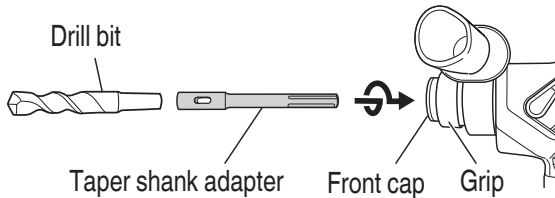
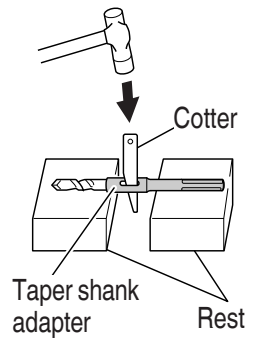

Fig. 25
Fig. 26
- (1) Mount the taper shank adapter to the rotary hammer. (**Fig. 25**)
- (2) Mount the drill bit (taper shank) to the taper shank adapter. (**Fig. 25**)
- (3) Turn the switch ON, and drill a hole in prescribed depth.
- (4) To remove the drill bit (taper shank), insert the cotter into the slot of the taper shank adapter and strike the head of the cotter with a hammer supporting on the rests. (**Fig. 26**)